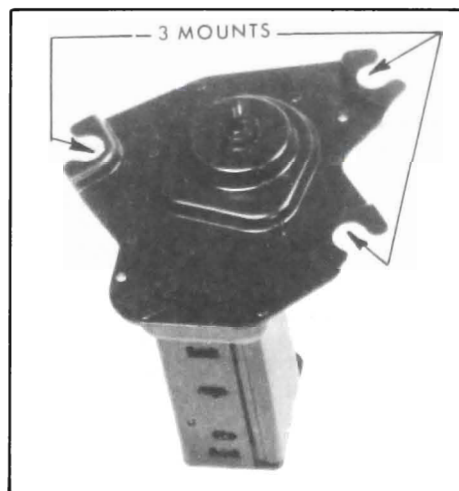

Figure 10-92—Single and Two Speed Wiper
1. Remove washer pump drive cam as required (Figure 10-92). The cam is pressed on the shaft but can be wedged off by using two screwdrivers between cam and plate.